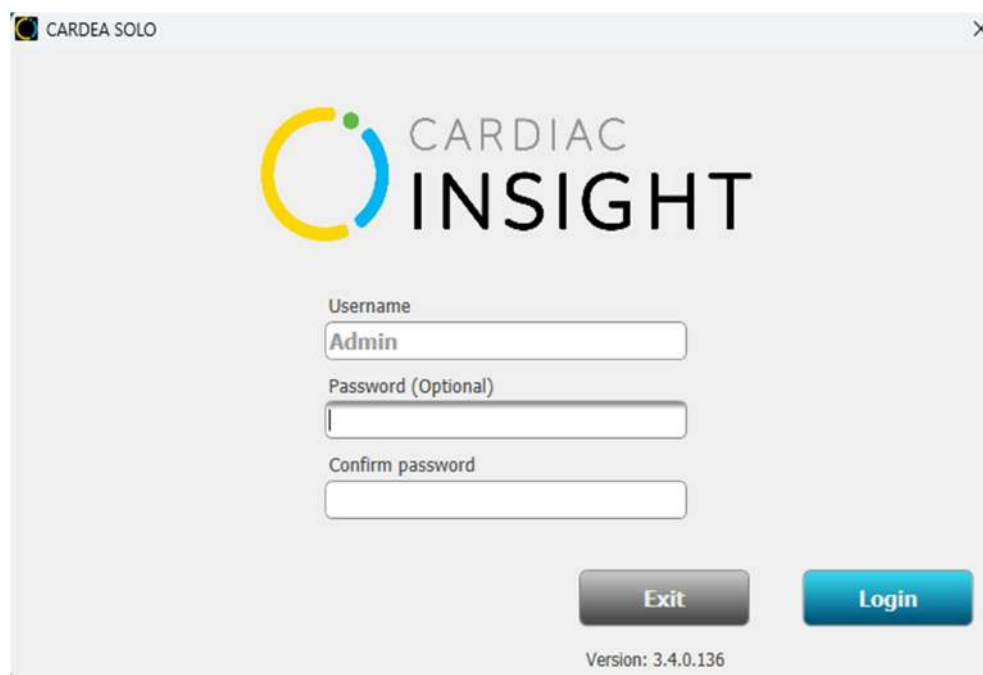

Figure 4.1. Administrative Log-in screen.
The first time you start **Cardea SOLO** Software following installation (See Section 2.4) the Administrative Log-in screen will be presented. See Figure 4.1.
**New login profile name.** This will be the User name entered for login, see Figure 4.1. Passwords are not required but are supported. User authentication, during login to the PC and/or **Cardea SOLO**, is strongly recommended. If desired, add and confirm the Password.